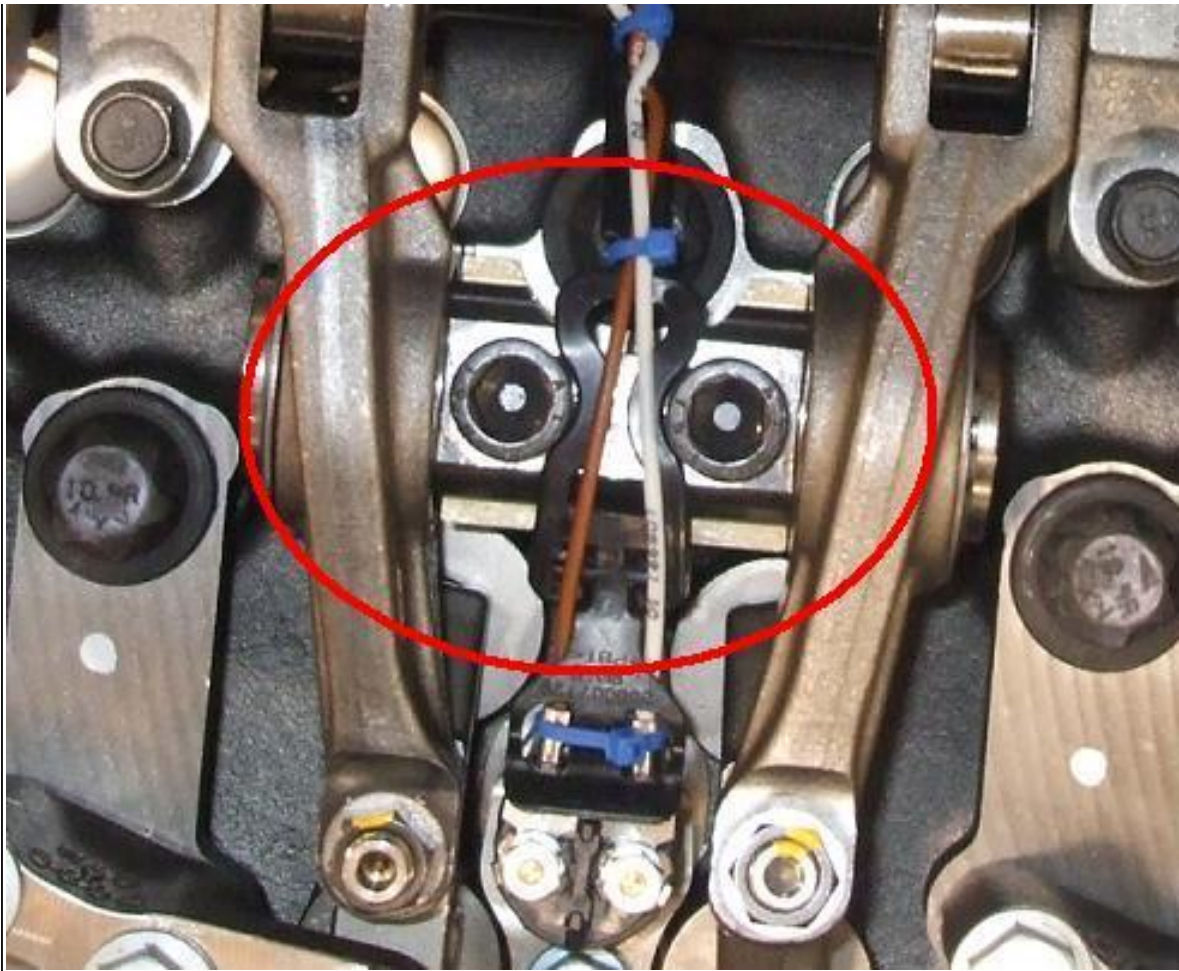

Figure 6, Locking Tab
3) Route the harness to the injectors and push down on the locking tab that goes between the rocker bolts (Figure 6). Torque the injector harness nuts down to 1.5 NM or 13 IN-LBS and make sure the valve cover goes on without interfering with the harness.